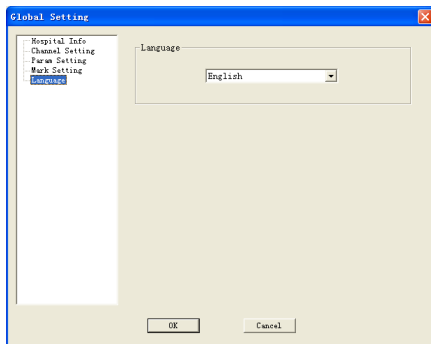

Figure 5.31
- 5) Set language in "Language" menu, as shown in Figure 5.31.